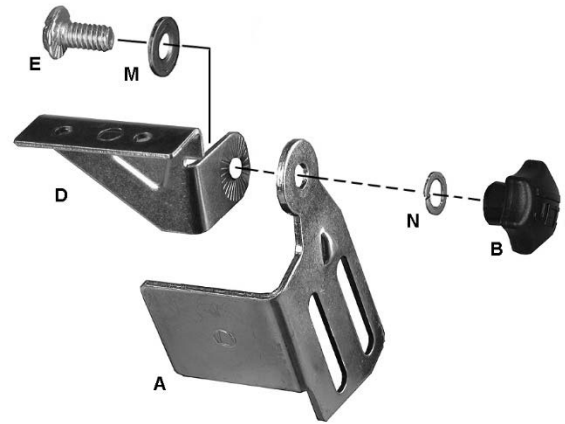

Figure 3: brackets to spark guards
Refer to Figure 3.
1. Assemble the left spark guard (A) and eye shield bracket (D) using Figure 3 as a guide. Make sure spark guard and bracket are marked **L**.